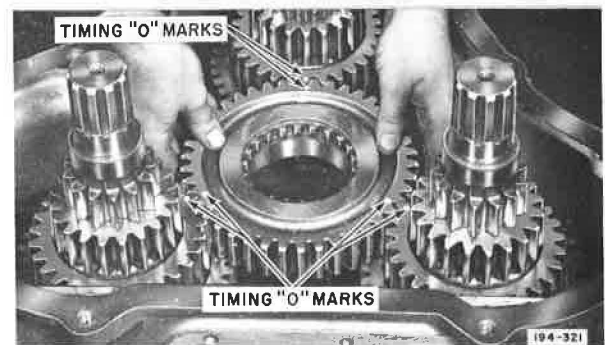

Figure 5-40. Installing Mainshaft Third Speed Gear
4. Place transmission front case in a vertical position. Install mainshaft third speed gear so that the three alignment "O" marks on face of gear mate with the alignment "O" marks on the countershafts third speed gears. See Figure 5-40.